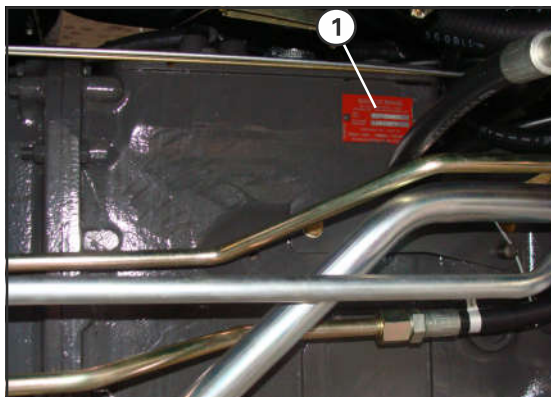

Fig. 31
Fixed on the gearbox right side (1)(Fig.31).